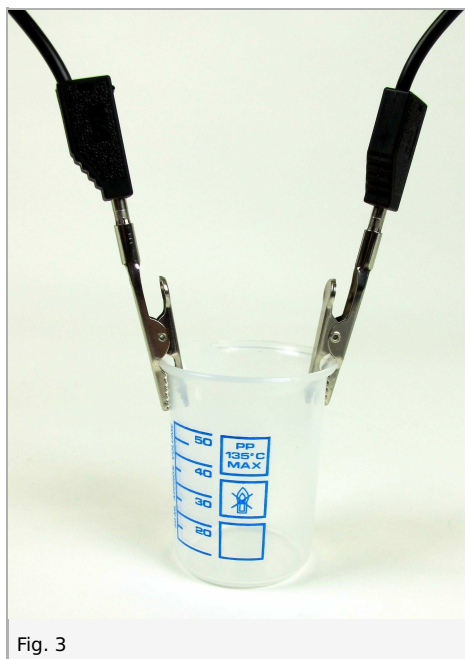

Fig. 3
2. Now, remove the last rod. Instead, clamp the cables to the rim of the beaker as shown in Fig. 3.